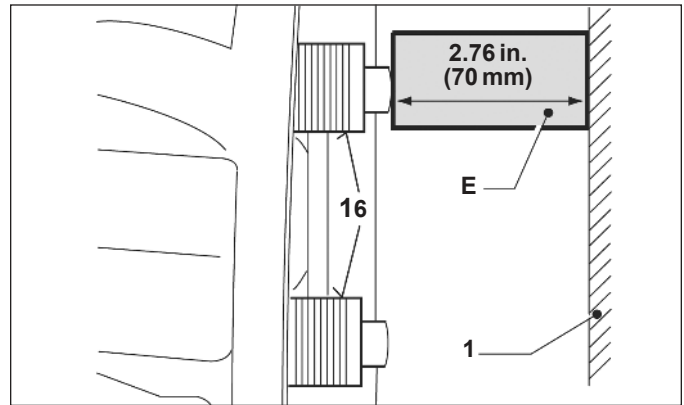

Figure 52 – Use of a Spacer (off-vehicle inspection)
If the work is being carried out at a workbench, the technician may insert a 2.76 in. (70 mm) spacer (See callout “E” in Figure 52) into the caliper (1) to help avoid the loss of thread engagement.
5.5.11 For threads that are in good condition, grease the threads with white grease (Part No. II14525 or K021964). Before installing the replacement inner seals (22), retract the threaded tubes by turning the shear adapter (61) counterclockwise.